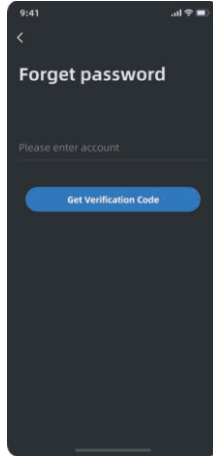

Figure 1
- 1) Figure 1: If you forget your password, you can reset it through "**Forgot Password**". Click "**Forgot Password**" on the login page, enter your registered account and click "**Get Verification Code**" to enter the verification code page.